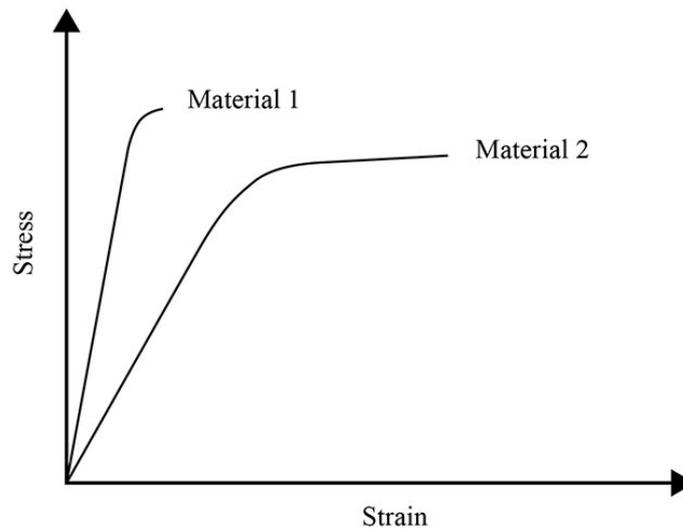

Fig. 4
- 4 (a) Fig. 4 shows the stress-strain graphs for two materials.